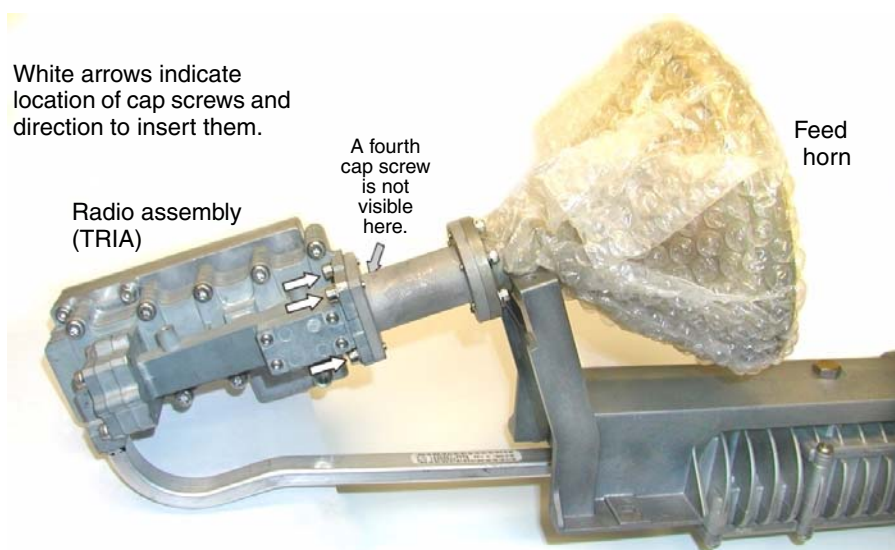

Figure 30: Attaching the waveguide transition to the TRIA
3. Place the neck of the feed horn into the upper mounting bracket, and position the square end of the waveguide transition close to the TRIA. See Figure 30.
4. Attach the square end of the waveguide transition to the TRIA using the provided M4 × 12-mm socket-head cap screws and M4 lock washers with teeth on the inner edges. (See Figure 30.)
Insert the screws in the direction indicated by the white arrows in Figure 30.